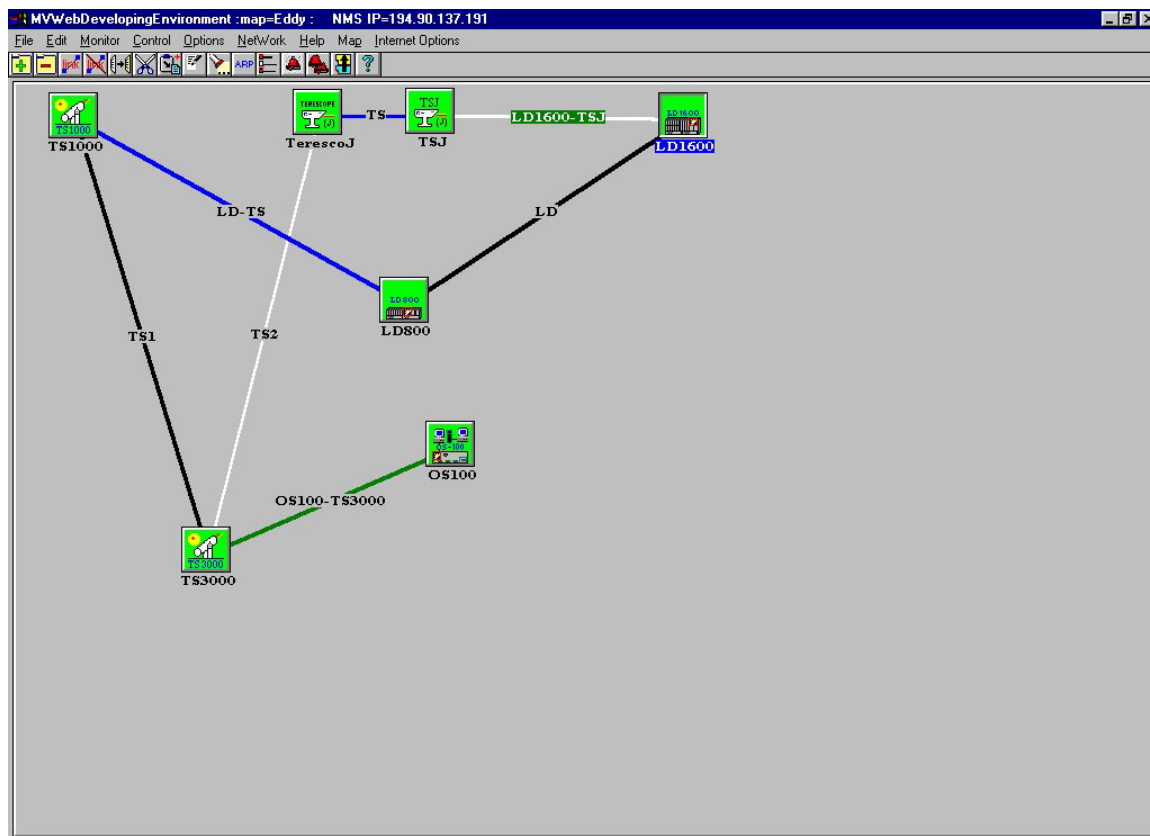
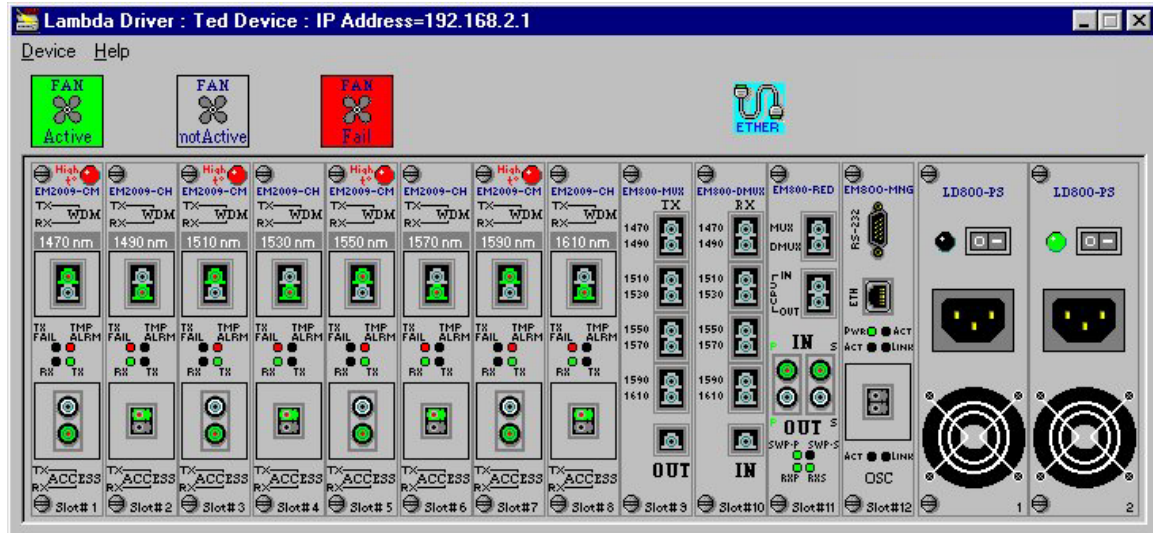

Figure 2: Map Level Window
Figure 3: Device Zoom Window
4. In the **Enter Password:** field, either type the password or, if the default password was not changed, leave it empty. Click **OK** or press **Enter** key to open the Map Level window (Figure 2).
To open the device zoom window (Figure 3), double click on **LD800** in the map level window (Figure 2).